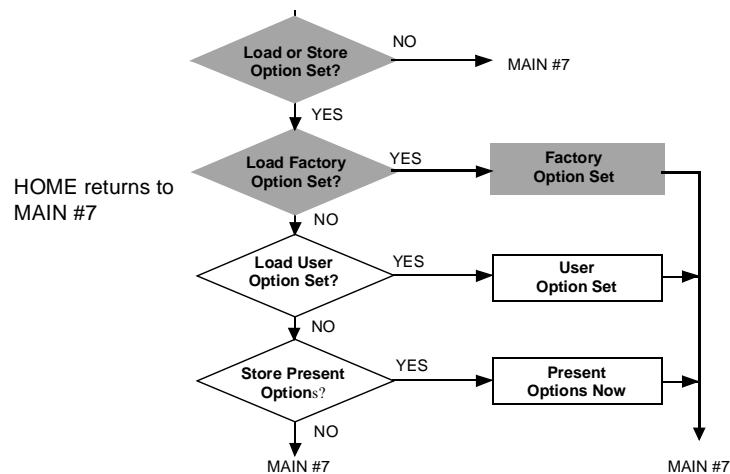

Figure 76 Store the Factory Option Set
- 3 The flow chart in *figure 76* shows the steps necessary recall the Factory Option Set from the Main #7 screen. Follow the steps outlined in the flowchart.